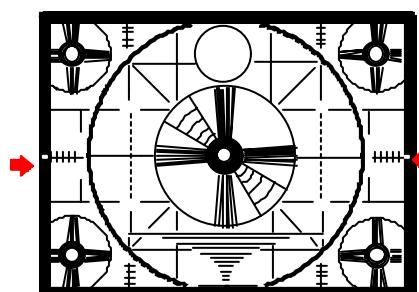

Fig.1-3 PAL MONO-SCOPE
2. Use the VOLUME + or - key on the remote controller to adjust and match the center lines appearing in the right and left edges of the mono-scope screen with the CRT center mark. (Fig. 1-3)